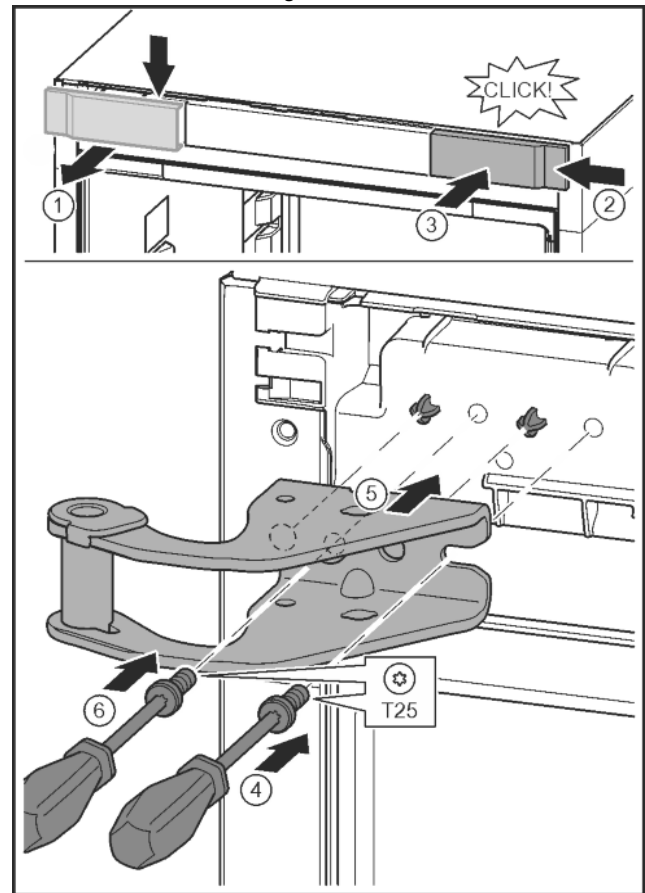

Fig. 10
- ▶ Release the cover and remove from the side. *Fig. 10 (1)*
- ▶ Rotate the cover 180° and clip onto the other side from the right. *Fig. 10 (2)*
- ▶ Click the cover into place. *Fig. 10 (3)*
- ▶ Position the screw with a T25 screwdriver. *Fig. 10 (4)*
- ▶ Position the upper bearing bracket. *Fig. 10 (5)*
- ▶ Tighten the screw. *Fig. 10 (4)*
- ▶ Insert the screw with a T25 screwdriver and tighten. *Fig. 10 (6)*